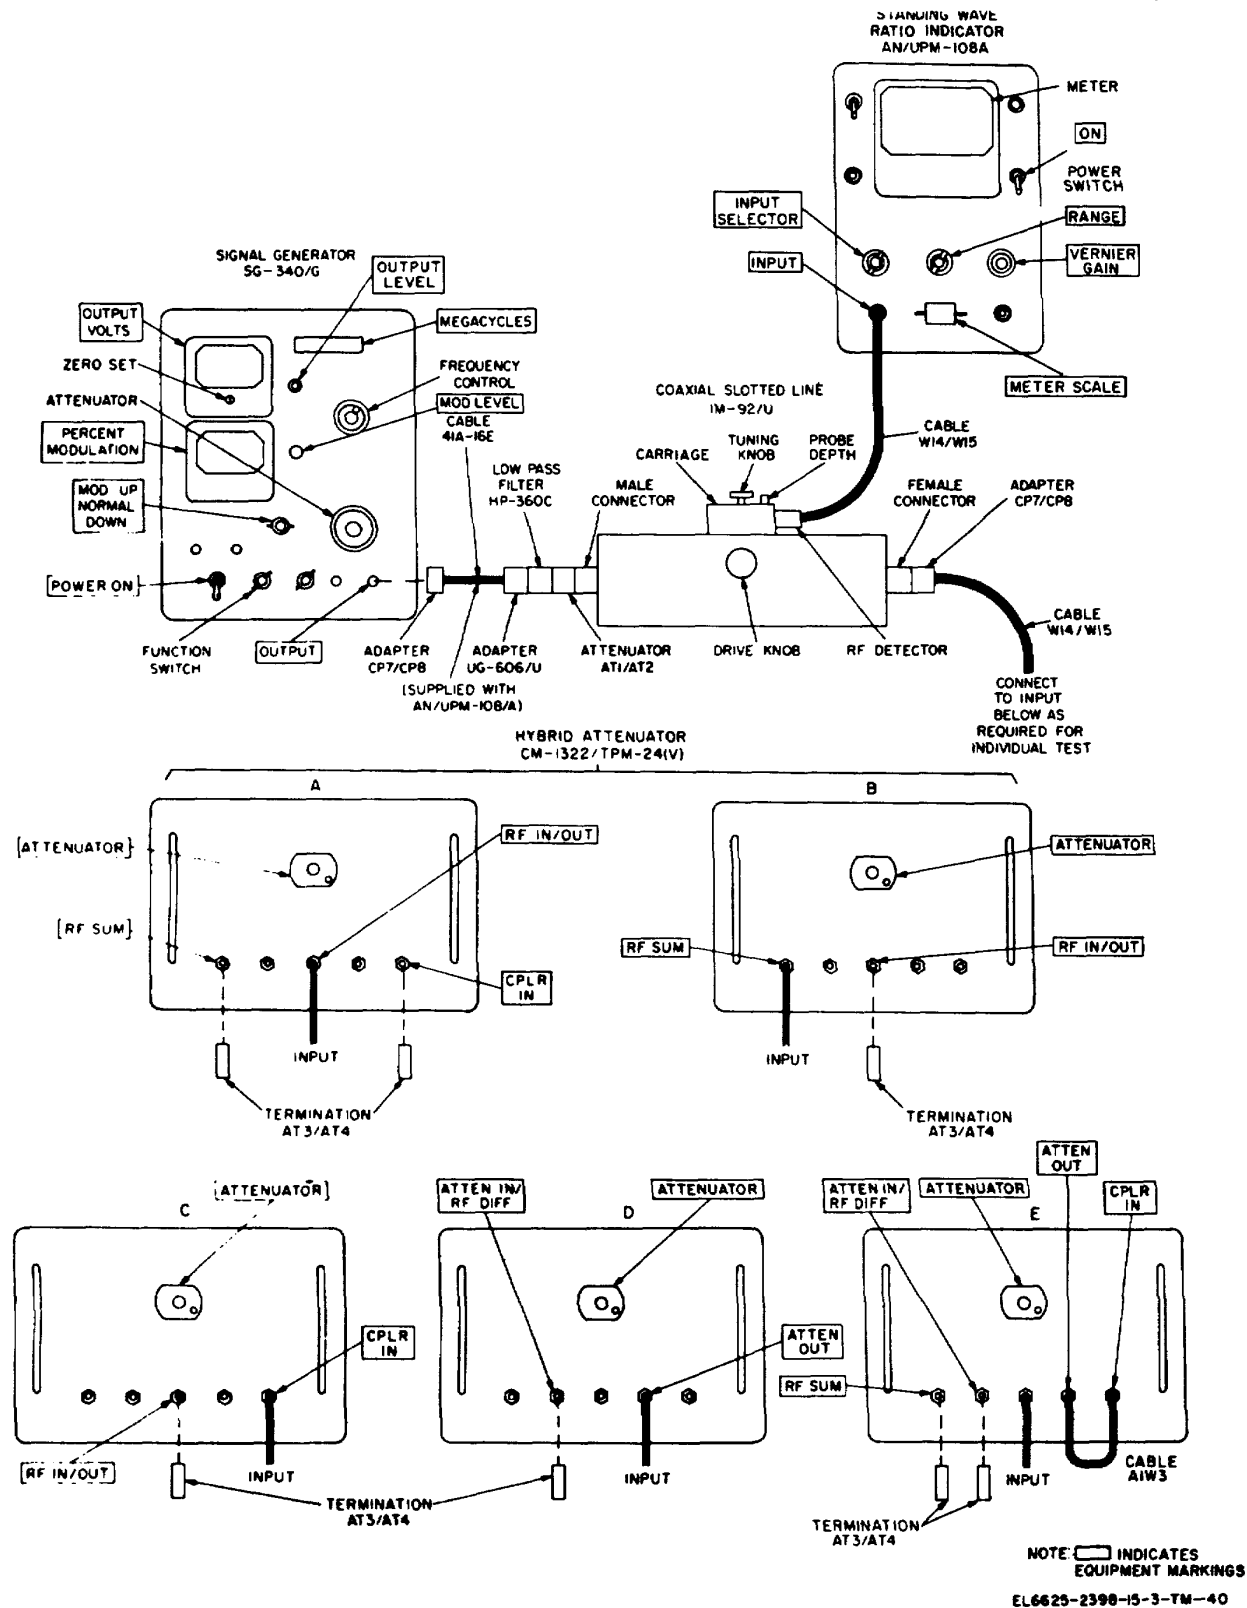

Figure 8-6. Hybrid Attenuator VSWR, test connections.
- (1) Signal Generator SG-340/G.
- (2) Coaxial Slotted Line IM-92/U.
- (3) Standing Wave Ratio Indicator AN/UPM-108A.
- (4) Low Pass Filter HP-360C.
- (5) Fixed Attenuator AT1/AT2(1).
- (6) Terminations AT3/AT4(2).
- (7) Adapter CP7/CP8(2).
- (8) Cables W14/W15(2).
- (9) Cable A1W3.
- (10) Adapter UG-606/U.
- b. *Test Connections and Conditions.* The five hybrid attenuator test configurations in figure 8-6 are connected to the test equipment in accordance with the directions supplied in the procedure below.